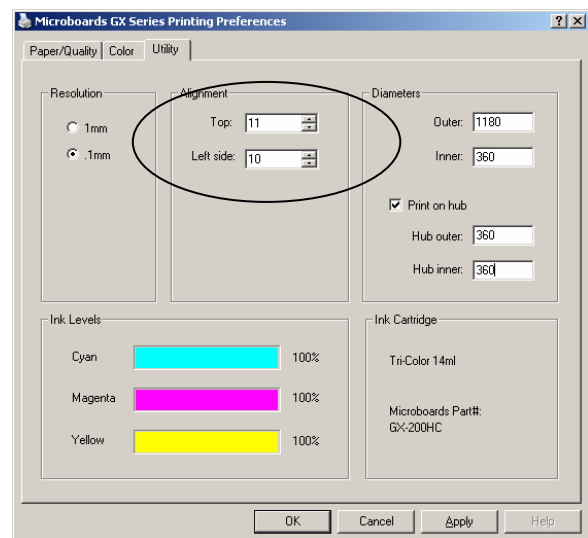

Figure 3
5. If the circle does not cross the alignment guide at both zero points, change the vertical and horizontal numbers in the Utility Tab by the number at which the circle does cross the guide (See figure 3).